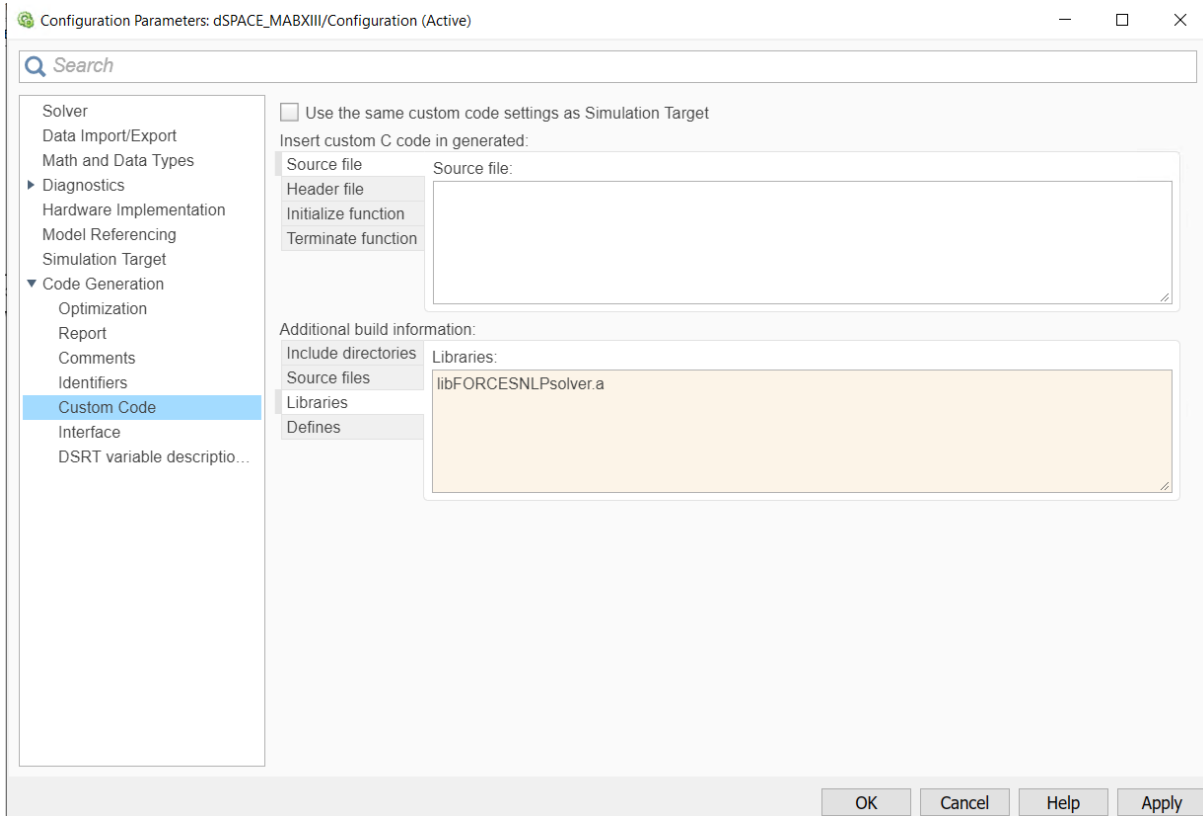

Figure 12.68: Add the libraries used for the code generation.
- 12) In the "Code Generation/Custom Code" tab, add the library files (see Figure 12.68):